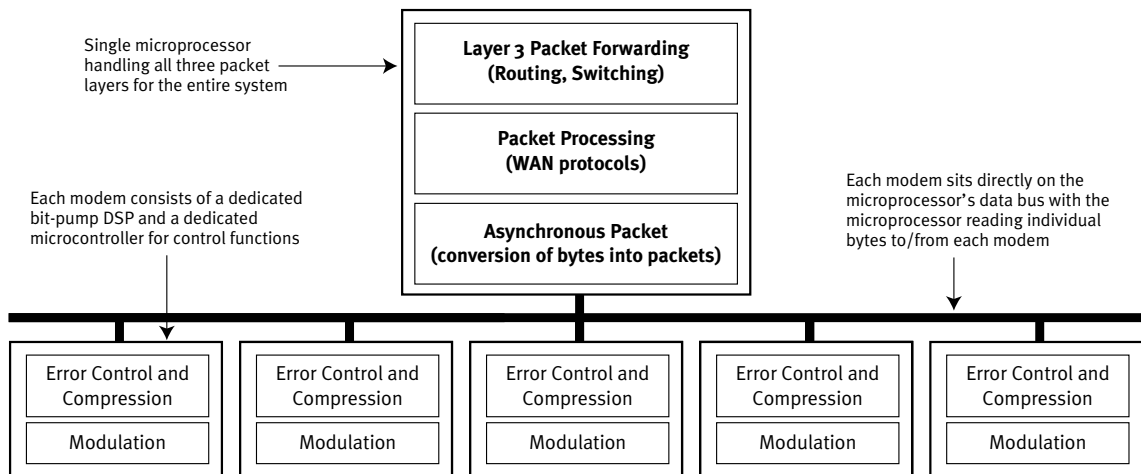

Figure 48 – Processor hierarchy in a traditional system
**Traditional Processing Model** Prior to the introduction of the Series56 Digital Modem, the three packet layers were implemented in a single central processor. The central processor was responsible for the three layers for all modems in a system. The processor hierarchy is depicted in Figure 48.